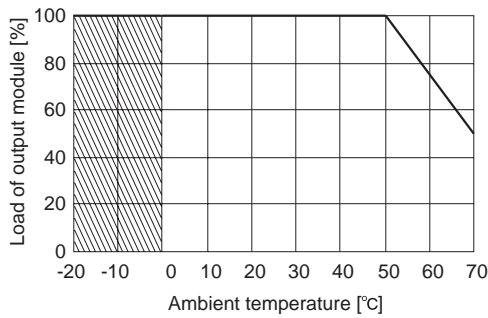

Fig. 4.6 Derating curve for ambient temperature
■ The derating curve for the ambient temperature (inlet temperature for cooling) of output modules is shown in Fig. 4.6.
Accordingly, because the derating curve (Fig. 4.6) indicates that up to 100% of the maximum load can be used up to 50°C and the largest value amongst A₀, A₁₁, A₂₁, A₃₁, A₄₁, and A₅₁ is 100%, this assures that these input and output conditions are acceptable.
Accordingly, because the derating curve (Fig. 4.6) indicates that up to 100% of the maximum load can be used up to 50°C and the largest value amongst A₀, A₁₁, A₂₁, A₃₁, A₃₂, A₄₁, and A₅₁ is 96%, this assures that these input and output conditions are acceptable.